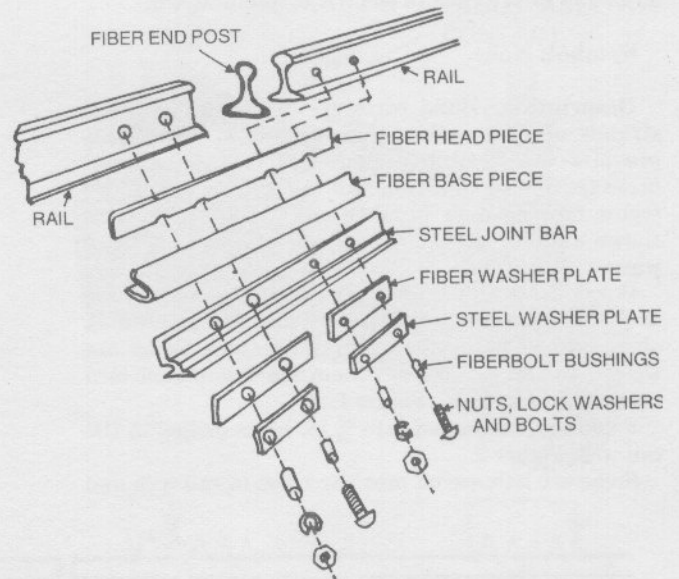

Figure 3
**Description:** There are many types of insulated joints on the market. They all employ an end post made of insulating material between the ends of adjoining rails. Since rails are joined together by metal bars and bolts, these must be insulated from the rails to prevent electrical current from flowing from one rail to the next. Different types of insulating material are used. Figures 2a and 2b show two types of insulated joints using fiber insulation. The major difference between the two types illustrated is that the armored joint includes thin metal head pieces to protect the fiber. Figure 3 is an exploded view of the non-armored type.